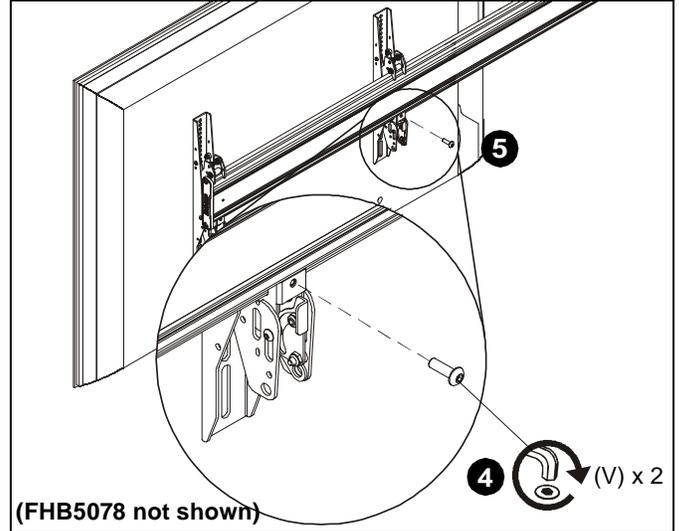

Figure 19
4. Fasten bracket against mounting rail using one 10-24 x 5/8" button head cap screw (V). (See Figure 19)